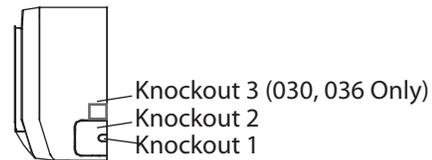

Fig. 19 – Remove Knockouts
1. Use a small saw blade to carefully remove the corresponding plastic covering on side panel and drill the appropriate size hole where the pipe is going through the wall. See Fig. 19.